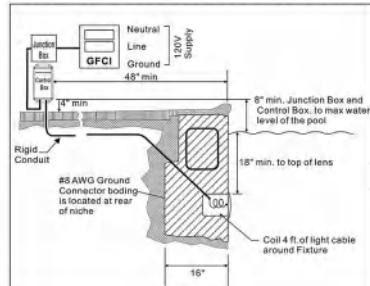

Figure 1
2. The junction box (or, for 12 volt models, the low voltage transformer) must be located at least eight(8) inches above water level, at least four (4) inches above ground level, and at least four (4) feet from the edge of the pool. See Figure 1.
3. The light fixture and all metal items within five(5) feet of the pool must be properly electrically bonded to a reliable point of grounding.
4. The wet niche must be properly installed so that the top edge of the underwater light's lens is at least 18 inches below the surface of the water in the pool. See Figure 1.
5. The wet niche must be properly electrically bonded and grounded via the No. 8 AWG ground connector located at the rear of the niche. See Figure 1.
1. Feed cord through conduit to junction box, leaving at least four (4) feet of cord at the light fixture to coil into the base of the light niche, see Figure 1. The four (4) feet of cord allows the light to be serviced after the pool is filled with water.
2. Cut the cord at the junction box, leaving at least six (6) inches of cord to make connections.
2. The lighting circuit must have a Ground Fault Circuit Interrupter (GFCI) for Controller. The junction box (or, for 12 volt models, the low voltage transformer) must be located at least eight(8) inches above water level, at least four (4) inches above ground level, and at least four (4) feet from the edge of the pool. See Figure 1.
4. The light fixture and all metal items within five(5) feet of the pool must be properly electrically bonded to a reliable point of grounding.
The wet niche must be properly installed so that the top edge of the underwater light's lens is at least 18 inches below the surface of the water in the pool. See Figure 1. The wet niche must be properly electrically bonded and grounded via the No. 8 AWG ground connector located at the rear of the niche. See Figure 1.
4. Feed cord through conduit to junction box, leaving at least four (4) feet of cord at the light fixture to coil into the base of the light niche, see Figure 1. The four (4) feet of cord allows the light to be serviced after the pool is filled with water.
5. Cut the cord at the junction box, leaving at least six (6) inches of cord to make connections.